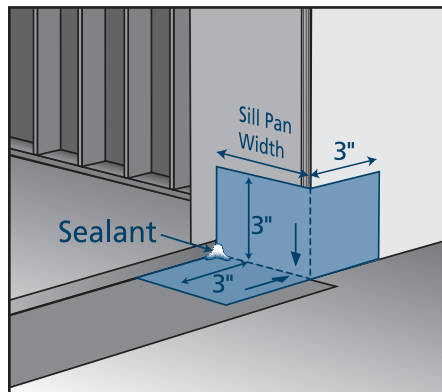

Fig. 8 Apply self-adhered tape (continuous slab)
- Adhere to one bottom corner tightly at 90° with 3" up the side and wrap flashing onto wall sheathing (**Fig. 8**); do not stretch or tear flashing; eliminate as many wrinkles as possible.